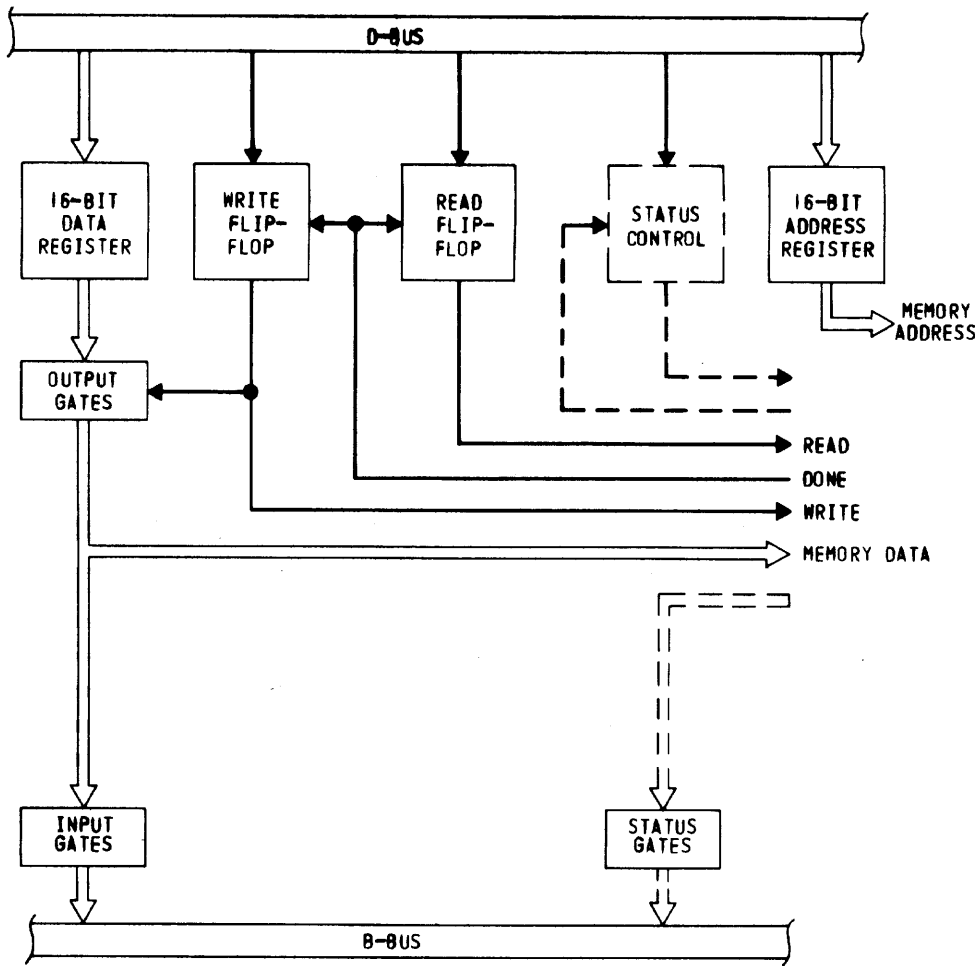

FIGURE 1-2. MEMORY INTERFACE REGISTER
•The complete processor, including control memory, mounts in a 19-inch-wide rack housing and requires a 14-inch height for the logic and control memory chassis, a 14-inch height for memory banks, and a 14-inch height for the input/output adaptor chassis. Power supplies are normally mounted on the rear rails of a cabinet behind the processor chassis. (See Figure 1-2.) Air movement is provided by for assemblies which require additional space on the rack.